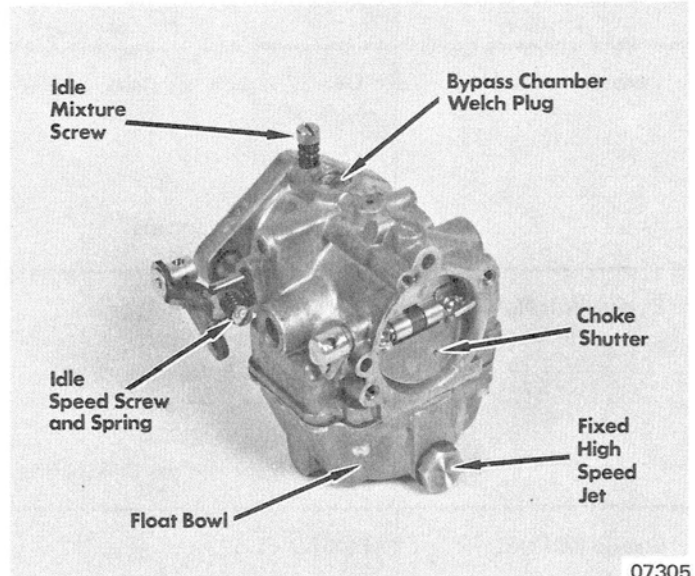

Figure 1. Carburetor Adjustments
The starting adjustment opening for a new carburetor, or for one that has not been run on the engine, is one full turn open on idle mixture screws. (Figure 1) The idle speed screw should be adjusted to open the throttle shutter a small amount.
Adjust the idle mixture screw (Figure 1) to obtain a smooth, steady idle and re-adjust the idle speed screw to obtain the idle speed shown in "Specifications" Section 8. Recheck the idle mixture adjustment at the recommended idle speed. An over-rich mixture will cause the engine to fire unevenly, and smoke will discharge from the exhaust. A lean idle mixture may cause backfiring.
Hurricane (644cc) and Mark I (644cc) carburetors are equipped with a fixed high speed jet. (Figure 1)
1. Remove idle speed screw and tension spring. (Figure 1) Inspect the screw for damaged threads.
3. Remove fixed jet plug (Figure 1) and gasket and remove jet from plug.
4. Remove float bowl retaining screws and remove float bowl (Figure 1) by tapping lightly to break the gasket seal.